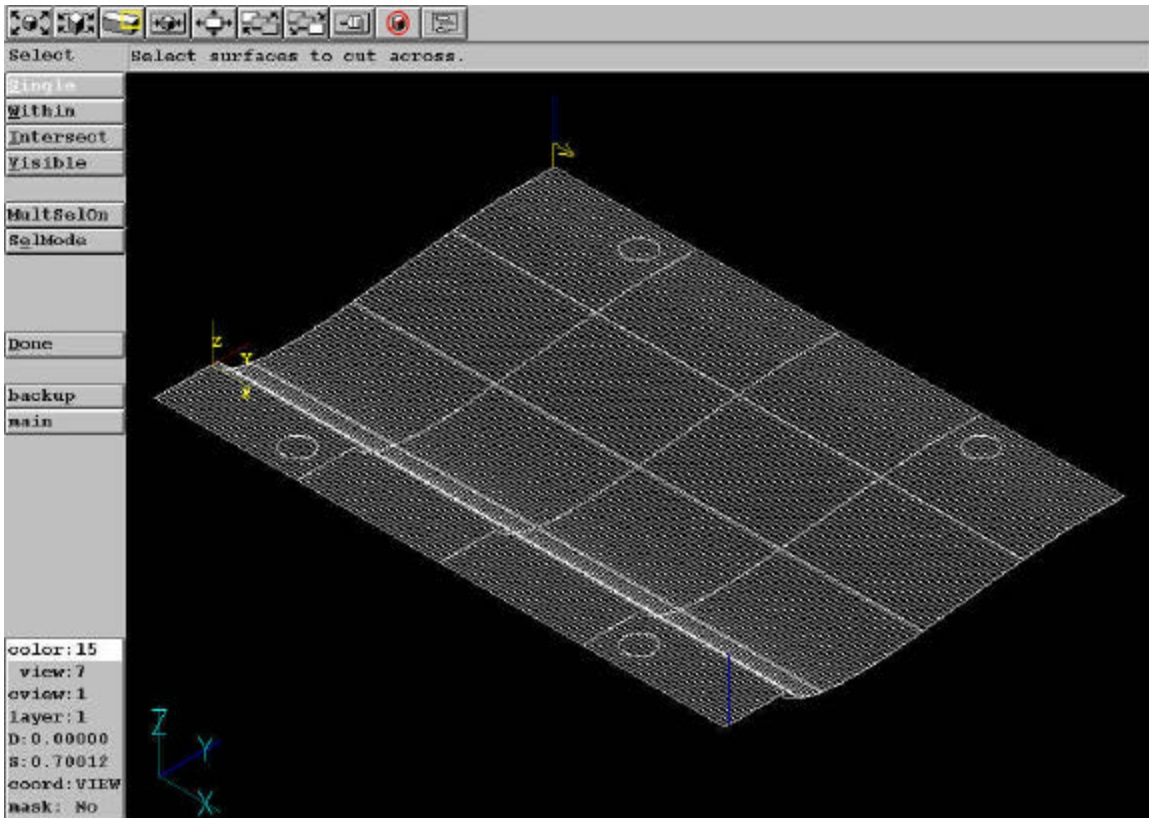

Figure 27: Span wise tool paths of the mold
- 8.) Click anywhere toward the leading edge on the lower surface to select the offset side for the cuts. The final sequence of cuts on the wing will resemble figure 27.